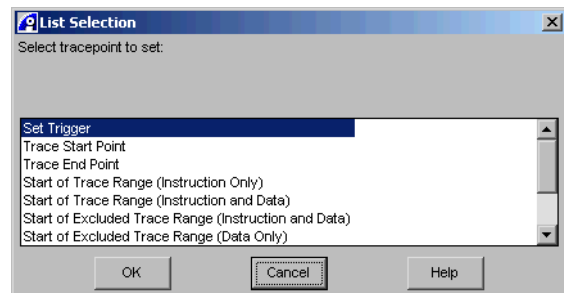

Figure 2-9 List Selection dialog box for setting unconditional tracepoints
The Set/Toggle Tracepoint List Selection dialog box, shown in Figure 2-9, enables you to set trace ranges, trace start and end points, and triggers. These can be used individually or in conjunction with other tracepoints, to ensure capture of trace information for the precise area of interest.
1. Display the dialog box, shown in Figure 2-9, using one of the following methods: